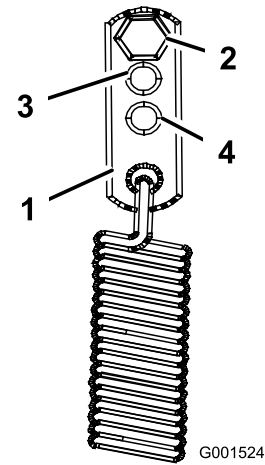

Figure 39
3. For a heavier drive setting, relocate the spring-anchor links to either the medium-duty or heavy-duty positions (Figure 39).